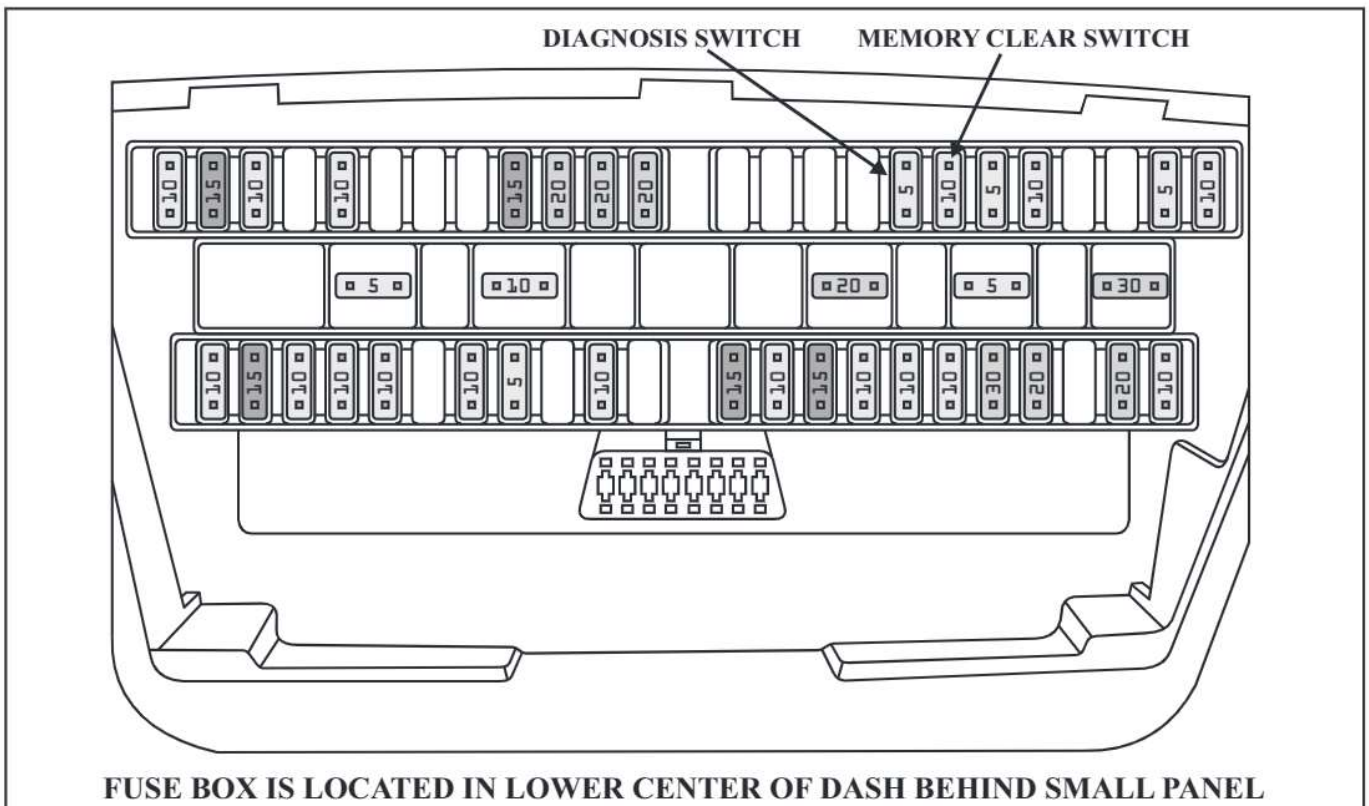

Figure 56
The Diagnosis and Memory clear switches are dedicated fuses in the fuse box shown in Figure 56, do not exceed the amp rating of the original fuse.
2. Remove the Diagnosis Switch, See Figure 56.
2. Remove the Diagnosis and Memory Clear Switches, See Figure 56.
3. To cancel code clearing, with the Memory Clear Switch removed, turn the ignition OFF and then install the Memory Clear Switch, See Figure 56.